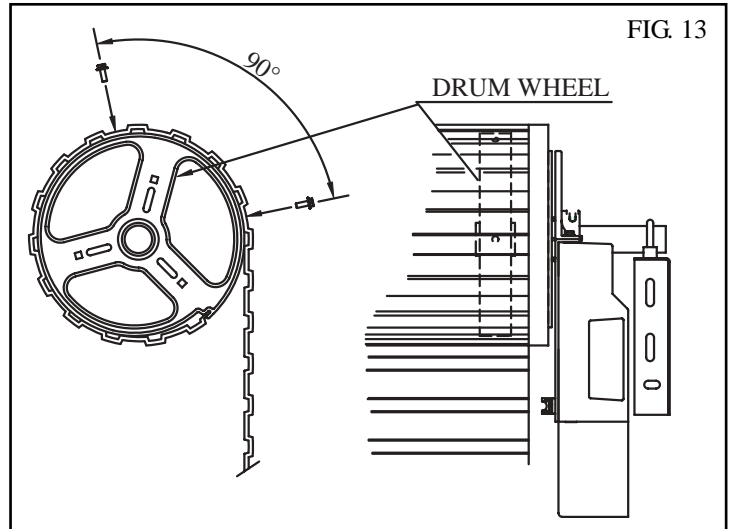

FIG. 13
1. With the door in the fully closed position, mark the curtain (Fig. 13) on both ends of the door.